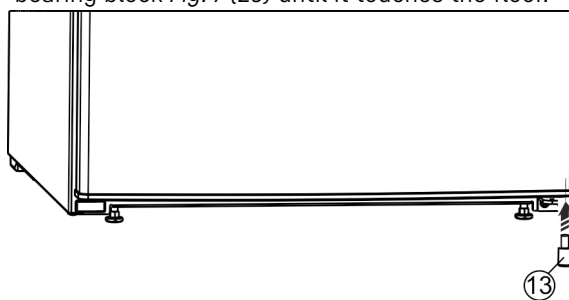

Fig. 9
- ▶ Insert the spacer Fig. 9 (13) back under the right-hand side of the door, as this is important for the stability of the appliance.